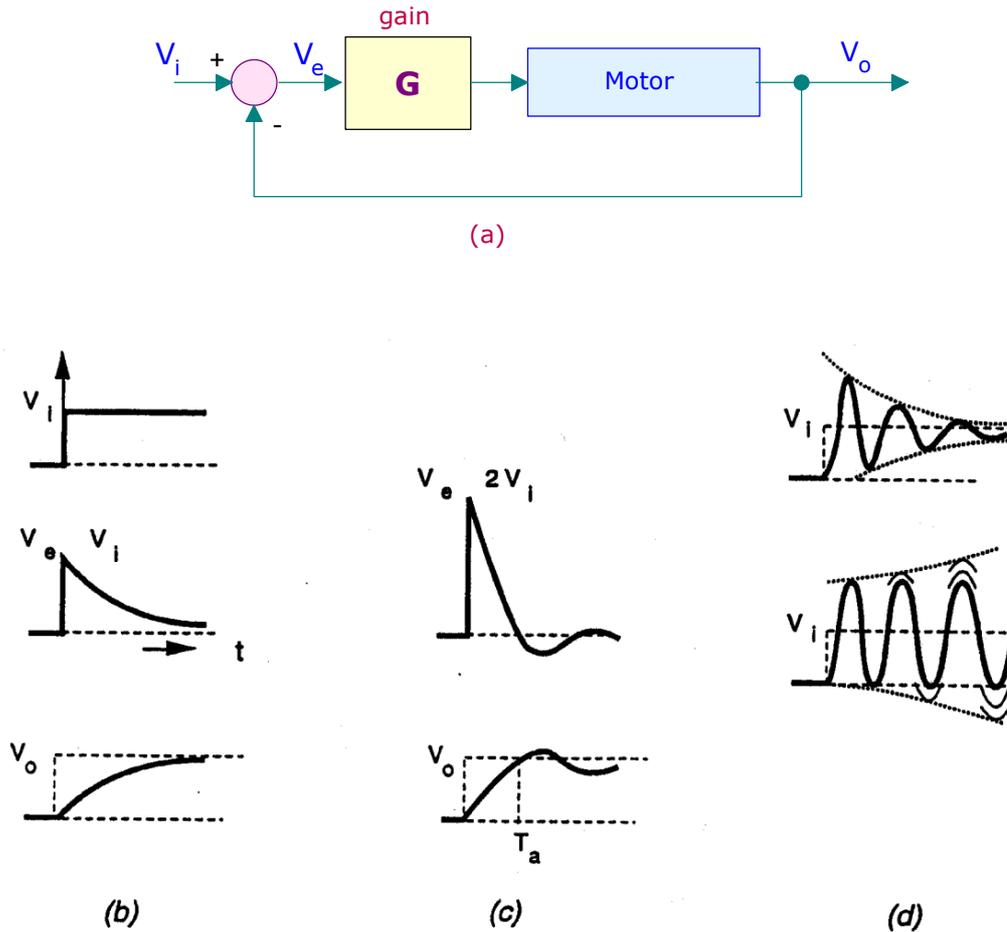

Fig. 2 Effect of varying proportional gain on step response
A purely electrical system may be represented as in Fig. 2, where the input V_i , output V_o , and error V_e are all voltages and the forward path gain (G) is shown separately. Note that if a step V_i is applied, the initial value of the error is equal to V_i as in (b), since V_o is zero.